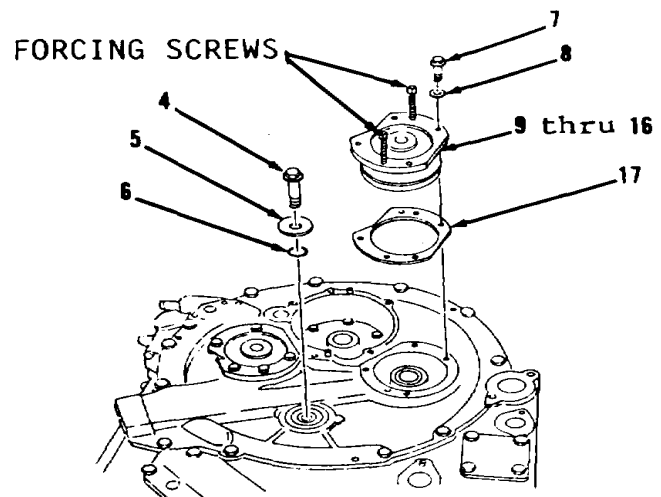

Figure 14-3.
6. Remove bolt (4), retainer (5) and preformed packing (6, Figure 14-3). Discard preformed packing (6).
7. Remove five bolts (7) and lock-washers (8).
8. Install two 3/8-16NC forcing screws in one of two bearing cages (16).
9. Evenly and gradually tighten two 3/8-16NC forcing screws and remove one of two items 9 thru 16 as an assembly.